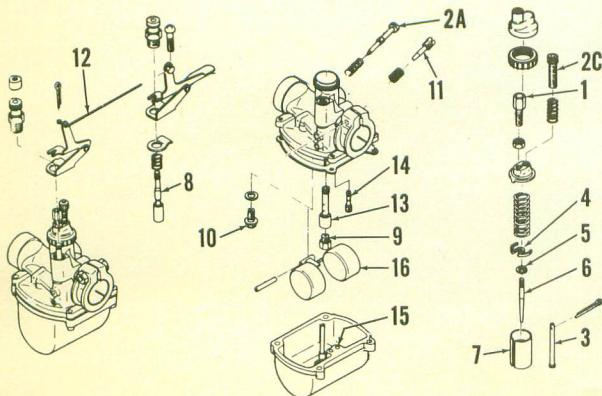
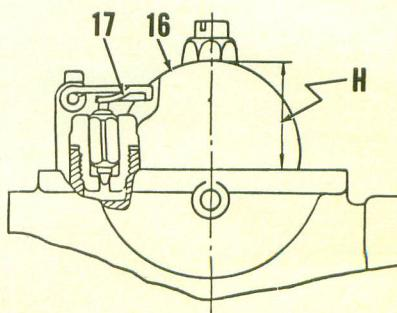

Fig. Y4-1—Exploded view of Mikuni VM carburetor used on early models. Starting valves for both carburetors are connected with rod (12).
Fig. Y4-3—Float level (H) is adjusted by bending tang (17).
**CARBURETOR.** Two Mikuni VM carburetors are used. Idle speed should be set to 1,100-1,300 rpm by turning screws (2A—Fig. Y4-1) or adjusters (2C). Make sure that both stop at exactly the same position and exhaust pressure is the same for both cylinders. Idle mixture is changed by turning needles (11). Initial setting is 1 1/4 turns open on model RD200A, 1 1/4 turns open on models AS2C, YAS1 and YAS1-C and 2 turns open on all other models. Turning the needle counter-clockwise leans the mixture. Carburetors must be synchronized to open exactly the same amount by turning cable guides (1) on top of each carburetor. To synchronize, begin by turning both idle
Float level (H—Fig. Y4-3) should be 22.5MM (5/8 in.) for YAS1 and YAS1-C, 25.3MM (1 in.) for AS2C models, 30MM (1-3/16 in.) for RD200A models, and 21MM (13/16 in.) for all other models. Float height is adjusted by bending tang (17) on float. Refer to Fig. Y4-1 and the following standard specifications:
Before adjusting the pump control cable, it is important that the throttle cable guides (1—Fig. Y4-1) are correctly set. To adjust the throttle cable guides, turn the idle speed screws (2A) out or idle speed adjuster (2C) all the way down, then synchronize cable guides (1) so that both throttle slides (7) begin to move at exactly the same time when the hand grip is turned. The